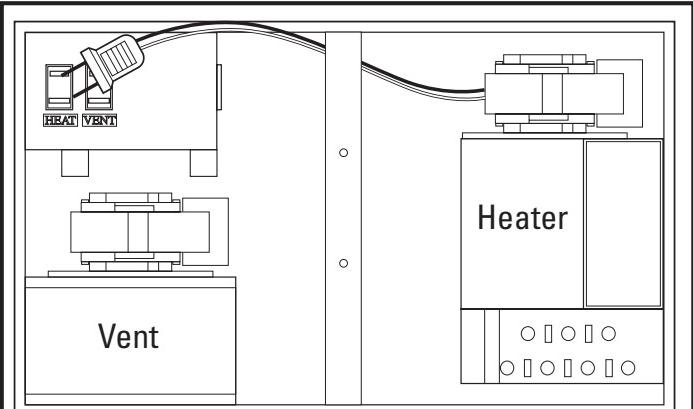

**Figure 10**
- Reinstall the wire compartment cover by sliding the tabs at the bottom of the cover into the slots in the housing. Make sure all wires are tucked inside of the compartment and are not being pinched or showing through. Reinstall the two screws removed in **Step 3** of **SECTION 1 Preparing the Unit** (**Figure 10**).